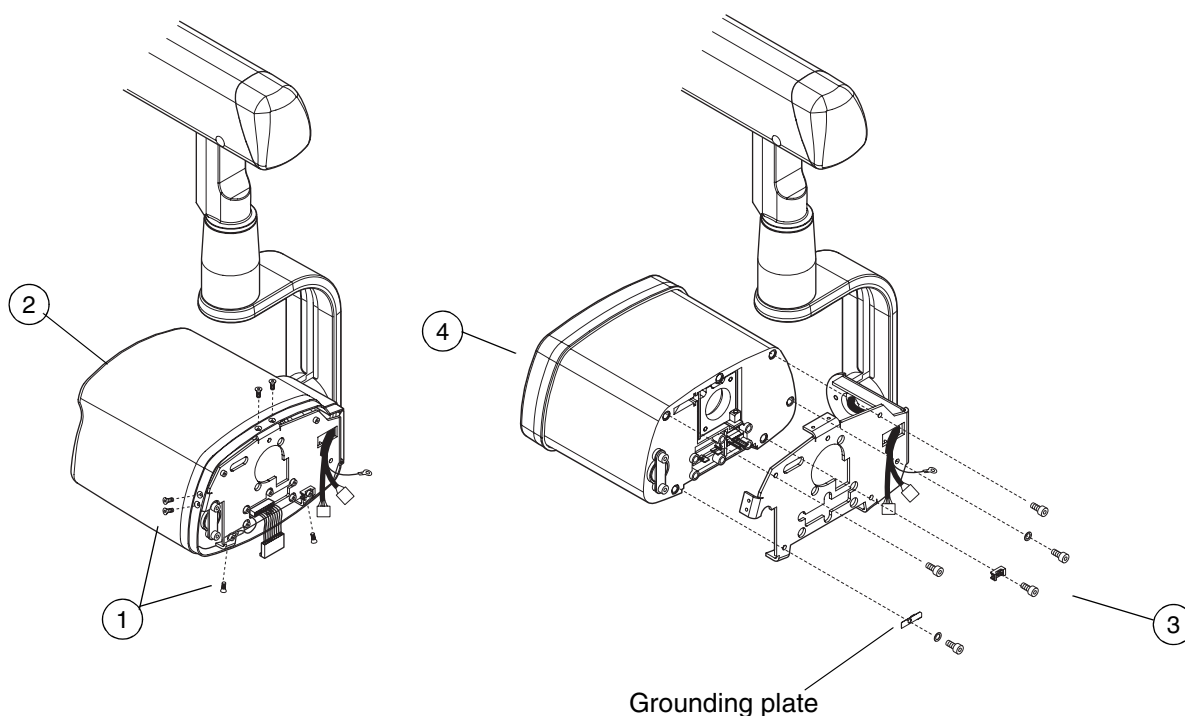

Figure 10
- b) Unscrew the six fastening screws of the tube head cover (Fig. 10, 1) and remove the cover (Fig. 10, 2).
- c) Unscrew the five screws from the support frame (Fig. 10, 3) and remove the tube head (Fig. 10, 4). Note, that there is a grounding plate under the lower left attachment screw.